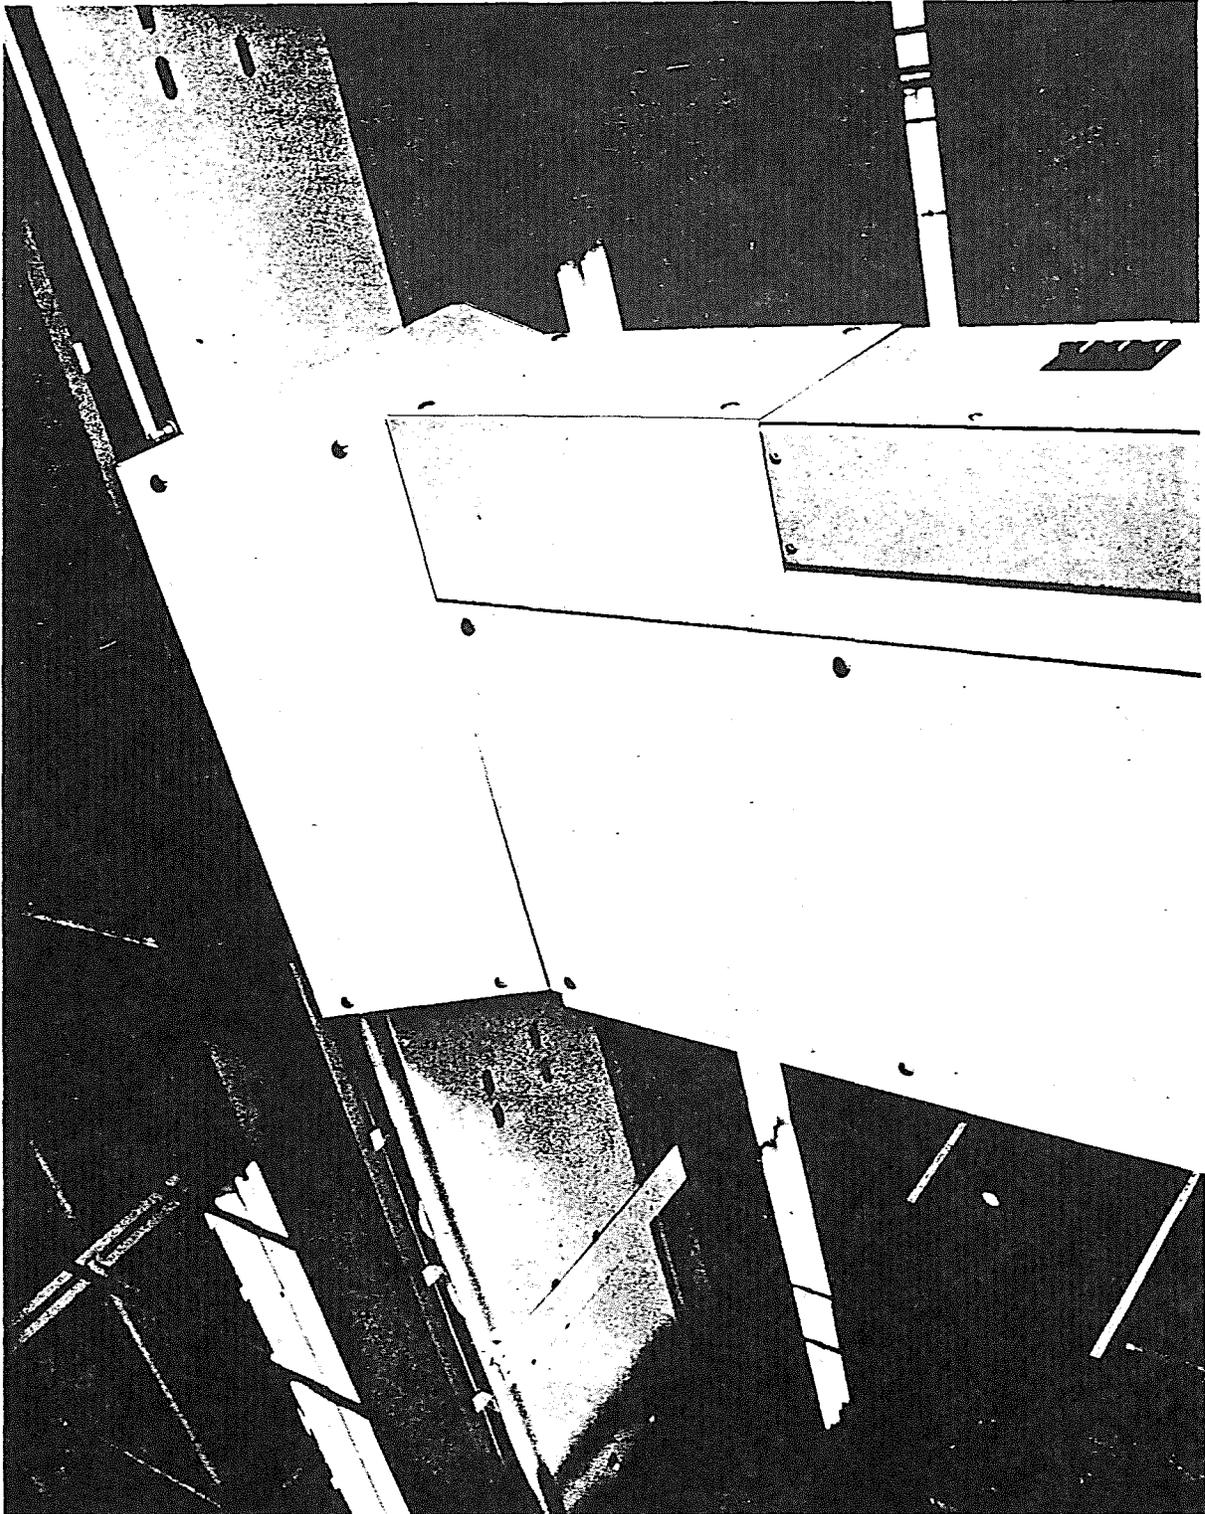

FIGURE 7
- 4.8 Continue on with assembly of the overhead cable troughs if required. Use Figure 7 and ED-1E374-01 as guides. Do not place the duct covers on the system at this time since the cables must still be laid in. Store the covers in a secure place where they will not be scratched or otherwise damaged.